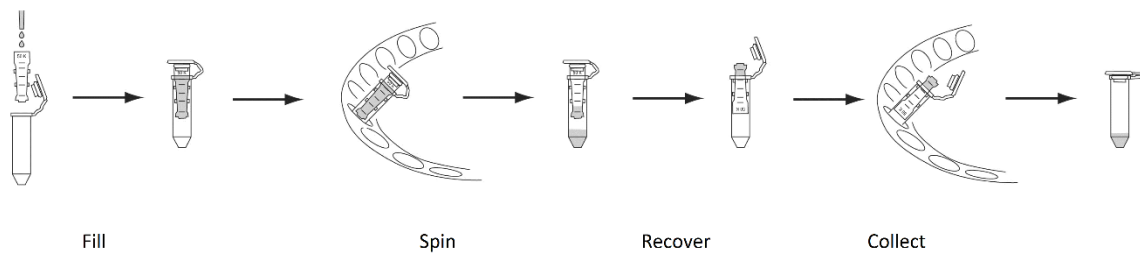

Figure 2. Antibody concentration step
1. Add 500 μ l of ddH₂O to the small antibody concentrator and cap the device as shown in Figure 2.
2. Centrifuge at 5000 \times g for 6 minutes. Make sure that **the cap strap and one membrane panel of the concentrator face the center of the rotor** (Fig. 2).
5. Centrifuge at 5000 \times g for 2-6 minutes. Make sure that **the cap strap and one membrane panel of the concentrator face the center of the rotor** (Fig. 2).
7. Invert the small antibody concentrator into the collection tube as shown in Figure 2.